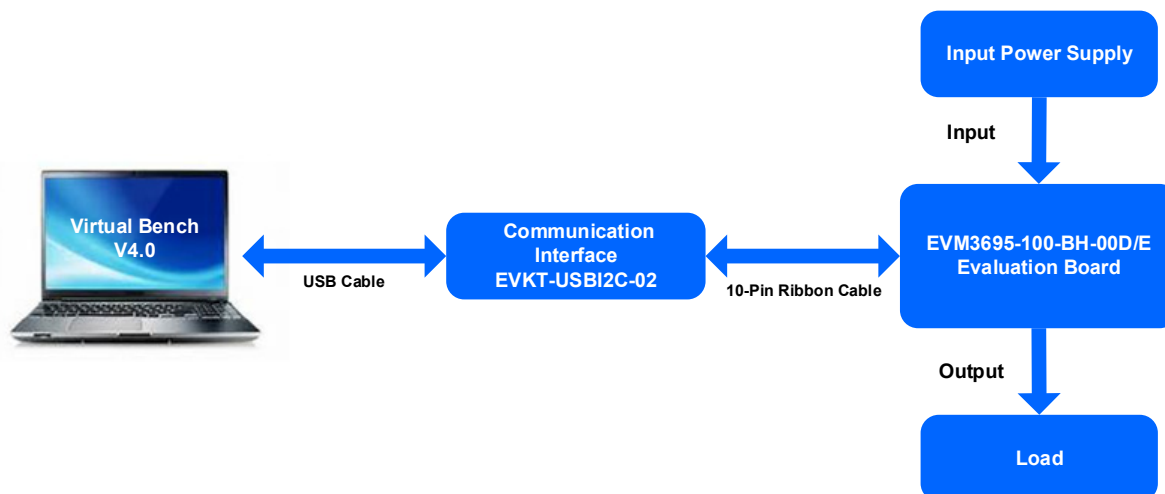

Figure 2: Hardware Set-Up
1. Configure the hardware properly prior to use (see Figure 2).